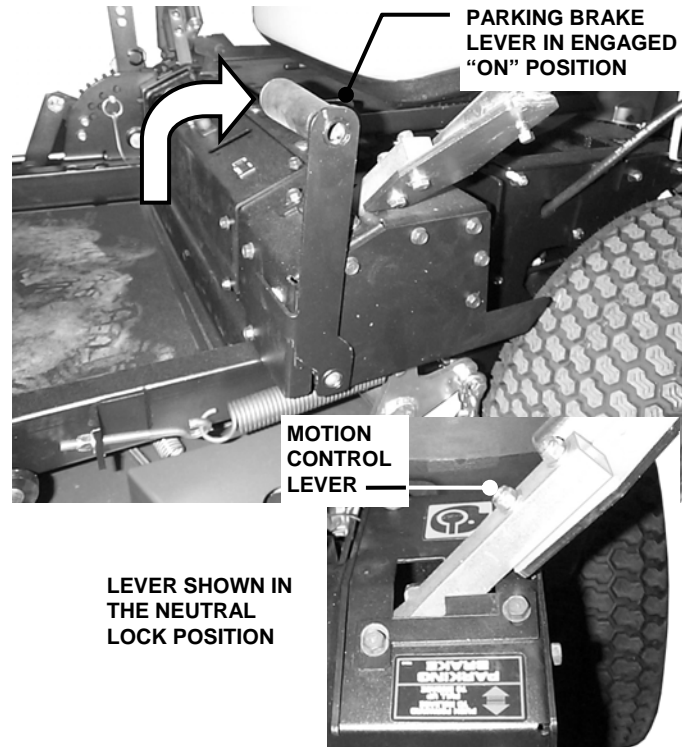

FIGURE 3.7
1. Engage parking brake by pulling the parking brake lever back to the engaged position. See Figure 3.7.
**NOTE:** Engaging parking brake prior to placing motion control levers in the neutral lock position will cause engine to die. See Figure. 3.7.